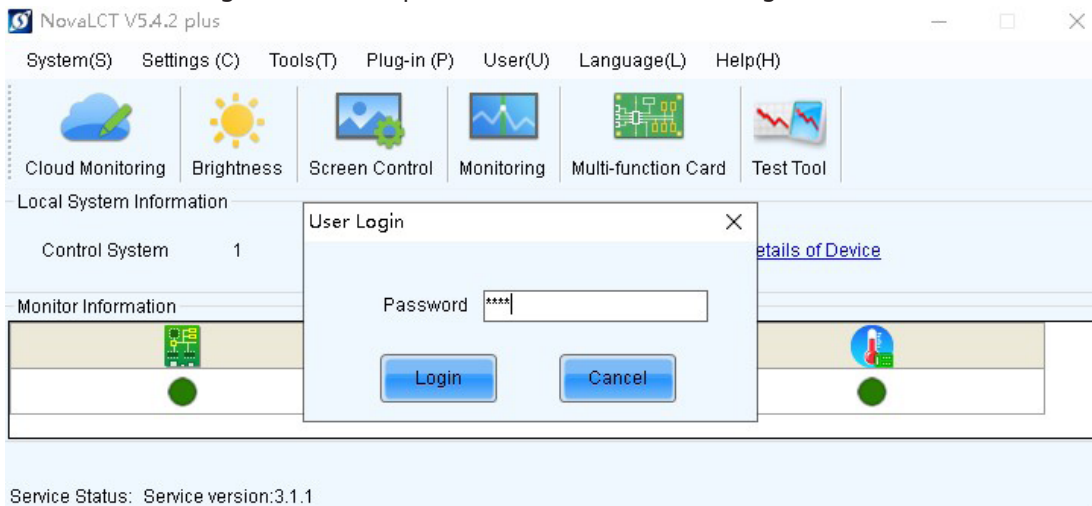

Figure 1-2
2. Enter the password and click **Login**. The default password is admin or 666. See Figure 1-2.